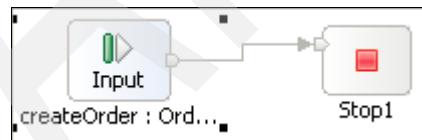

Figure 4-34 Connecting the Input to a Stop terminal
- Wire the output terminal of the Input primitive to the input terminal of the Stop primitive as shown in Figure 4-34.